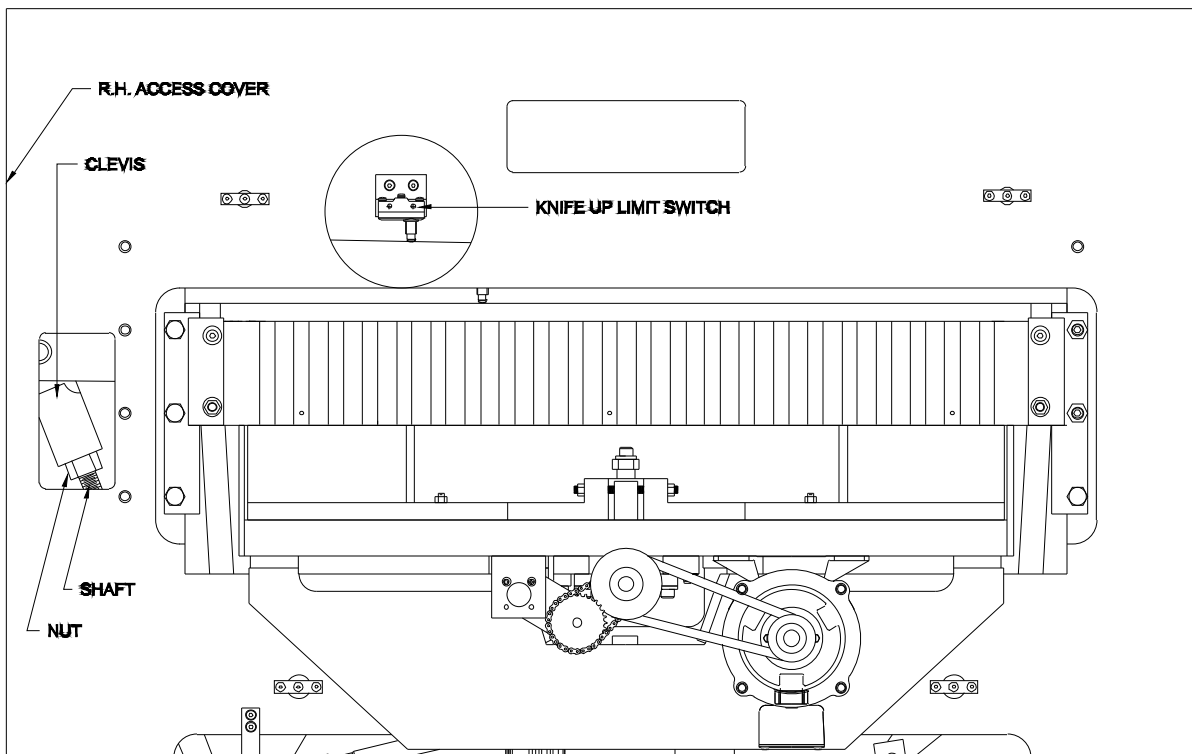

Fig 20
6. If the measurement is not correct, turn the "MAIN POWER SELECTOR" switch to "ON" and allow the MPS to reset. Turn the "MAIN POWER SELECTOR" switch to "BLADE ADJUST". Press the two (2) black cut buttons to start the main motor.
7. Jog the blade beam down 1" using the two (2) black cut buttons. Turn the "MAIN POWER SELECTOR" switch to "OFF".
8. Remove the right side access cover exposing the blade beam clevis and hex nut. Fig. 20.
After the blade height adjustment is set, check the blade beam up limit switch. Fig. 20.